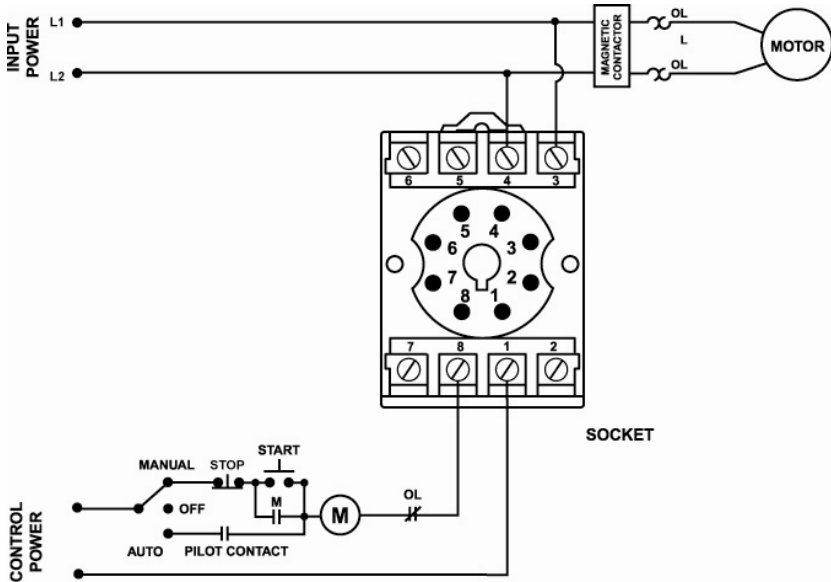

Figure 1: Typical Wiring Diagram for 201-100-SP, 201-200-SP
3. Connect L1 and L2 (terminals 3 and 4 for Model 201-XXX-SP and terminals 6 and 7 for Model 201-200-SP-T-9) to the LINE SIDE of the motor starter as shown in Figures 1 and 2.
4. Connect the output relay to the circuitry to be controlled. For motor control, connect the normally open contact in series with the magnetic coil of the motor starter as shown in Figures 1 and 2. For alarm operation, connect the normally closed contact in series with the control circuit (terminals 1 and 2).